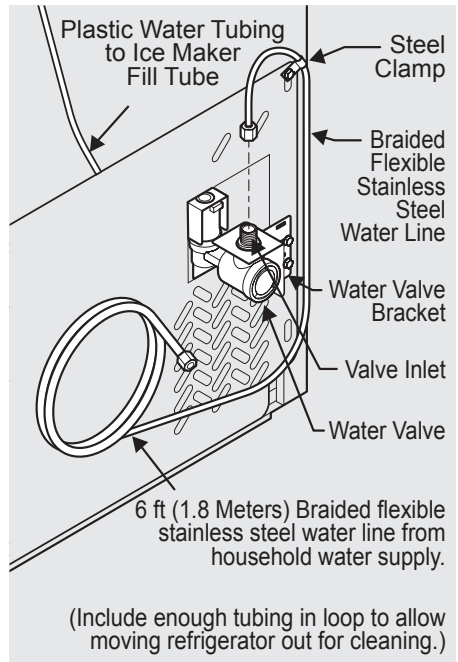

Figure 2
**If you use braided flexible stainless steel or polyline tubing** - The nut is already assembled on the tubing. Slide nut onto valve inlet and finger tighten nut onto valve. Tighten another half turn with a wrench; DO NOT over tighten. See Figure 2.